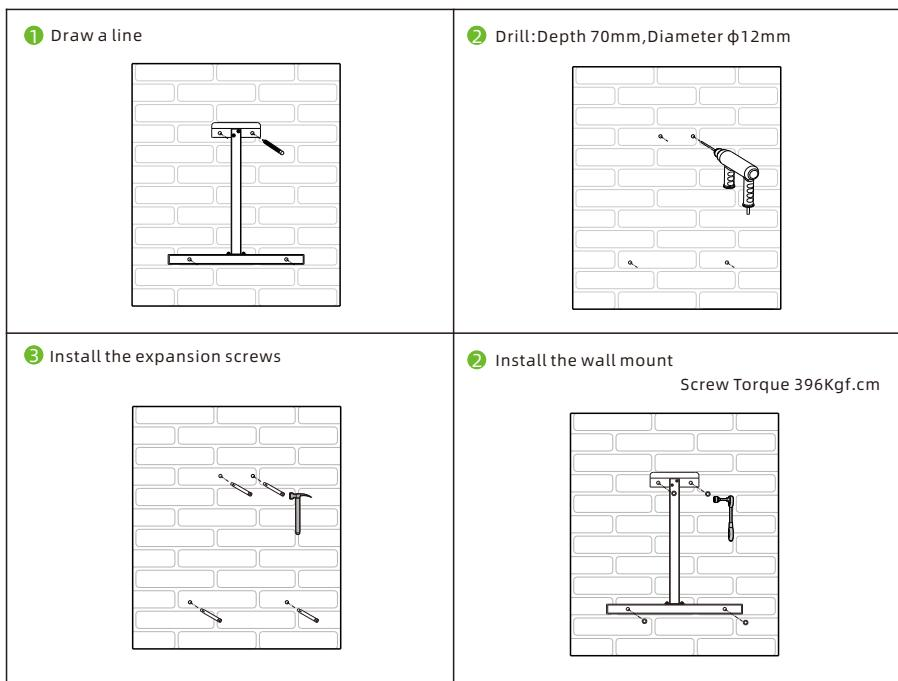

Fig 5.9
STEP 1: Use the wall mount plate as a template, drill holes into the wall and insert the expansion bolts as Fig 5.9 show;